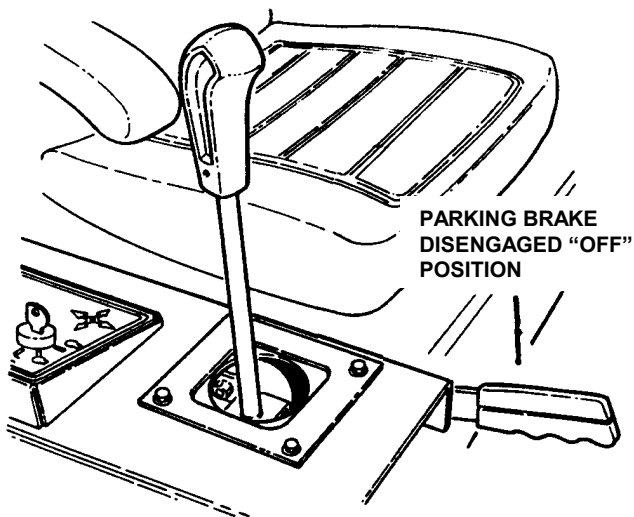

FIGURE 3.9
2. Release parking brake by moving brake lever down to the "OFF" position. See Figure. 3.9.